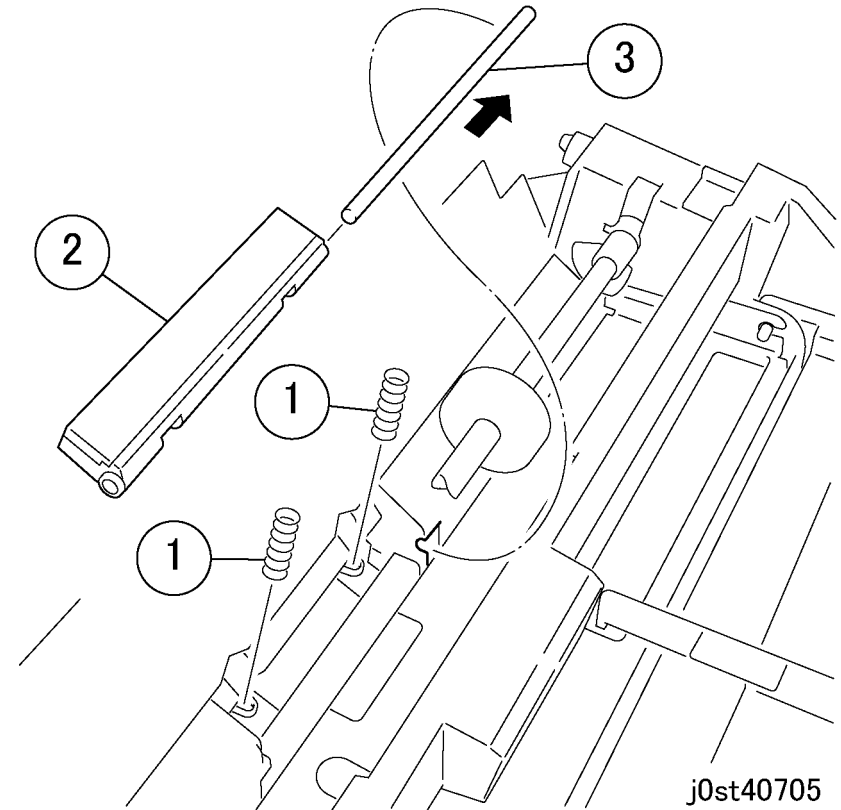

Figure 3 Removing the MPT Retard Pad (j0st40705)
4. Remove the MPT Retard Pad. (Figure 3)